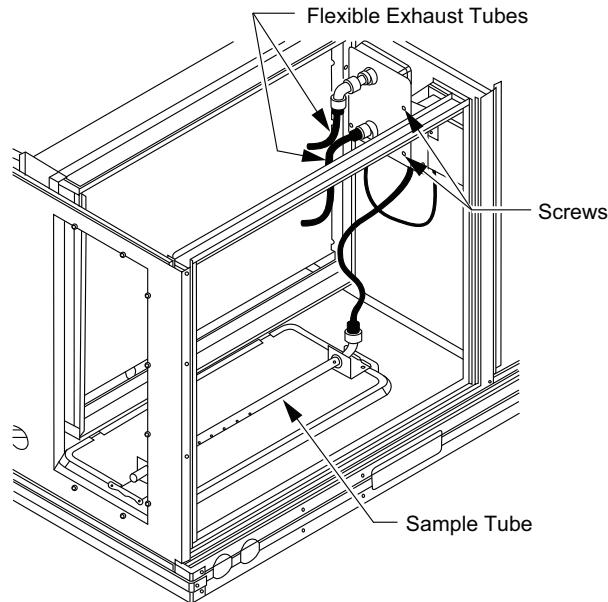

Fig. 43 – Return Air Smoke Detector Shipping Position
1. Unscrew the 2 screws holding the return air sensor detector plate. See Fig. 43. Save the screws.